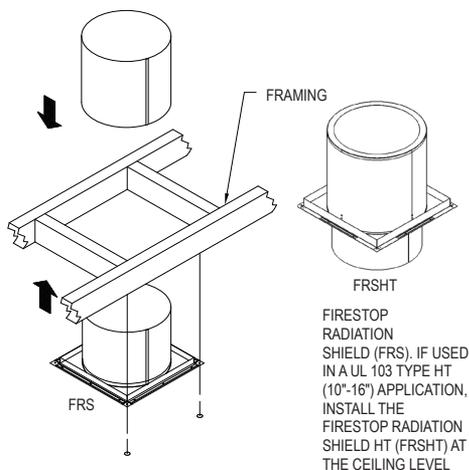

Figure 7
Note: a Firestop Radiation Shield is not installed where the chimney penetrates through the roof. Instead, you will need to install Roof Radiation Shields (required for 18"-24" diameters only - see **Step 7**) around the roof joist members. The Firestop Radiation Shield is installed on the underside of the ceiling/floor framing, with the cylindrical "tube" portion of the shield pointing upward (**Fig 7**). Use a minimum of either (1) 8 penny nail or (1) 1-1/4" wood screws per corner. Refer to Table 2 for framing requirements.
NOTE: In a 10" to 16" application (listed to UL 103 Type HT), you will need to use the Firestop Radiation Shield HT (FRSHT). See Figure 7.